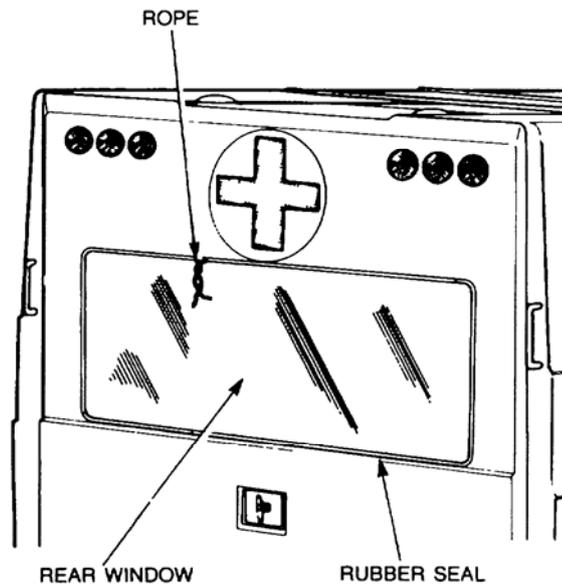

Figure 37 Rear Door – Acrylic Plastic Installation
- j. Position the rear door acrylic plastic and rubber in the frame (refer Figure 37) ensuring that the etched motif on the acrylic plastic is toward the bottom of the frame.